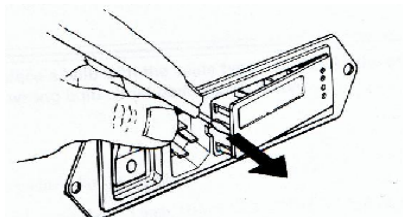

Figure 6-1 Fuse Holder Removal
1. Insert a small flathead screwdriver into the middle of the connector and pry out the fuse holder as Figure 6-1 illustrates.